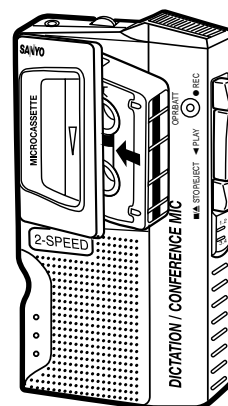

Fig. 5
2. Load a microcassette as shown in Fig. 5.
1. Load the microcassette as shown in Fig. 5.